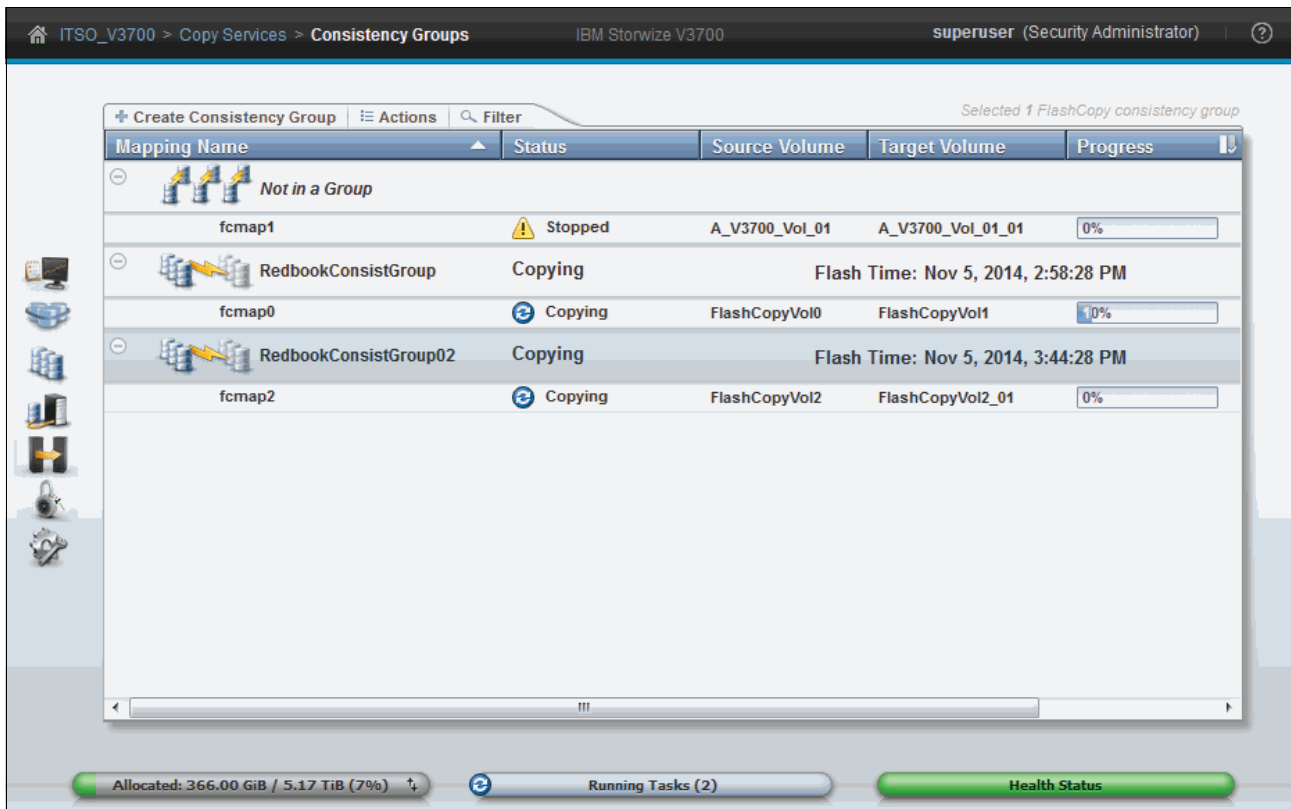

Figure 10-60 Consistency group started
- After you start the consistency group, all of the FlashCopy mappings in the consistency group start at the same time. The state of the consistency group and all of the underlying mappings changes to Copying, as shown in Figure 10-60.